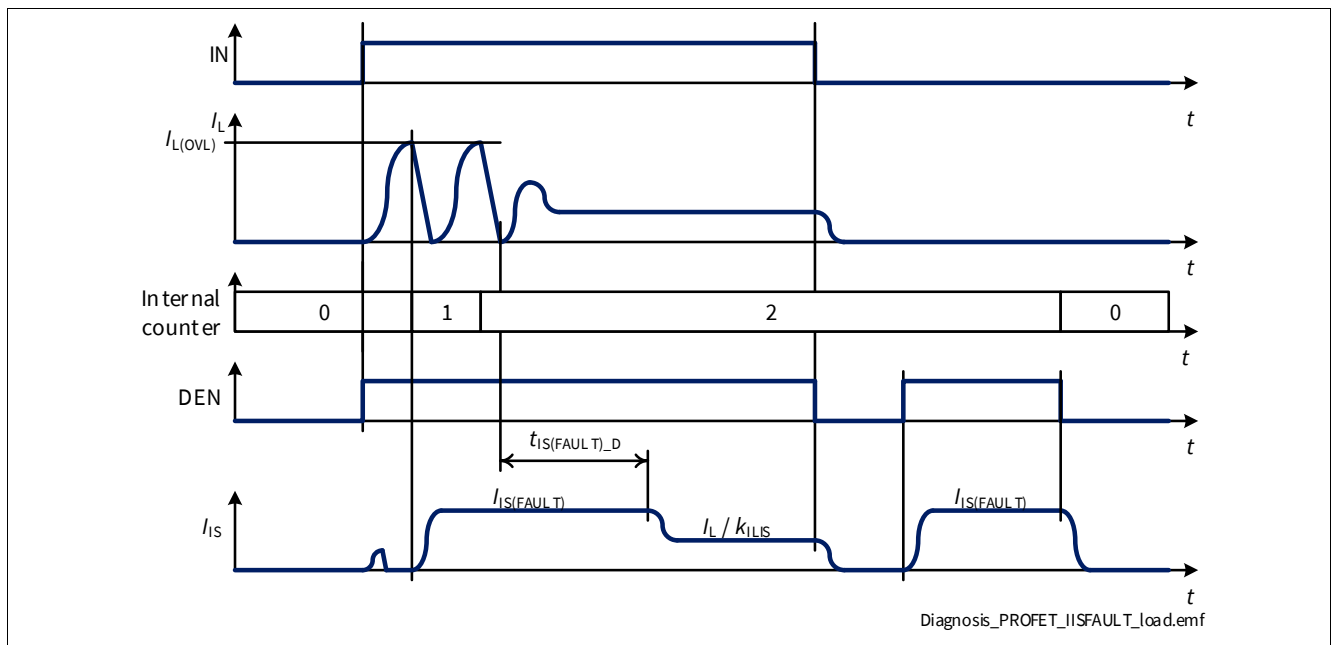

Figure 35 $I_{IS(FAULT)}$ at Load Switching
- if the channel is ON and the number of retries is lower than “ $n_{RETRY(CR)} + n_{RETRY(CYC)} * n_{RETRY(NT)}$ ”, the current $I_{IS(FAULT)}$ is provided for a time $t_{IS(FAULT)_D}$ after the channel is allowed to restart, after which $I_{IS} = I_L / k_{ILIS}$ (as shown in Figure 35). During a retry cycle (while timer t_{RETRY} is running) the current $I_{IS(FAULT)}$ is provided each time the channel diagnosis is checked